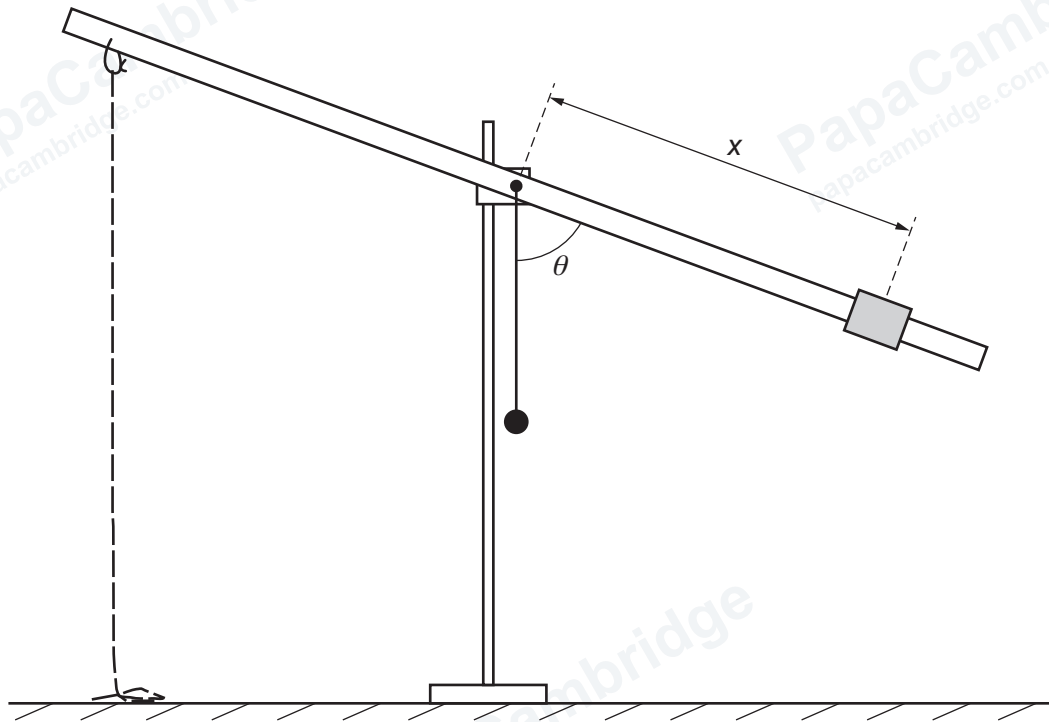

Figure 1.2
- Increase the distance between the nail and the slider by approximately 5 cm. Wait for the metre rule to settle into its new equilibrium position, as shown in Figure 1.2.
The angle between the plumb line and the metre rule is θ , as shown in Figure 1.2.